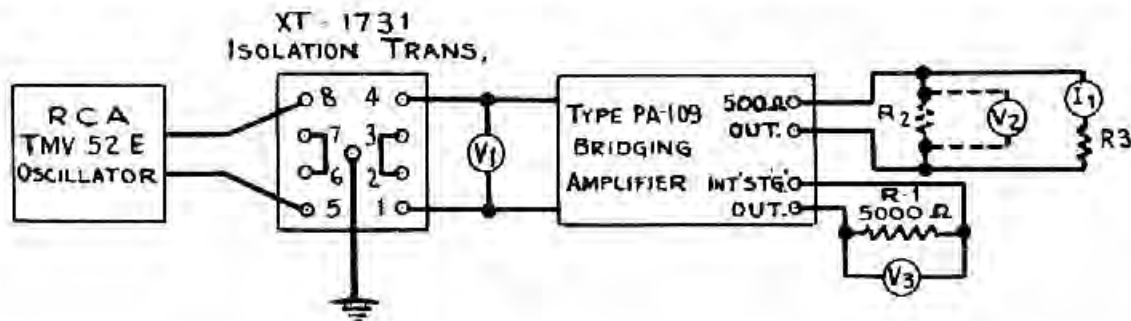

FIGURE 1
3. FREQUENCY RESPONSE MEASUREMENTS OF TYPE PA-109 AMPLIFIERS - It should be noted that the test circuit shown in Figure 1, Page 6 of Instructions IB-23837 for the Model PA-109A1 Bridging Amplifier (MI-3223) and the MI-3223-A Bridging Amplifier will result in the taking of a response curve under conditions equivalent to the operation of the amplifier from a source of zero impedance. To obtain a curve the equivalent of operation from a source of known impedance, insert in this test circuit two resistors, each of one-half the source impedance, one in series with each side of the amplifier input line and between the input voltmeter and the amplifier. The response curve shown in Figure 7 was taken under the equivalent condition of zero source impedance i.e., using the circuit shown in Figure 1. Over the range of source impedance from 0 to 30,000 ohms, the response will not vary more than about 1 db. at 30 cycles and 10,000 cycles. (The amplifier is normally operated from source impedances of 250 to 1,000 ohms.)
A. CONNECTIONS - Connect a calibrated source of audio frequency signal to the amplifier input terminals as indicated in Figure 1. An RCA TMV52E beat frequency oscillator is very desirable for this work.
Figures 1 and 2 attached show respectively the schematic and wiring diagrams for the MI-3223-C Bridging Amplifier.